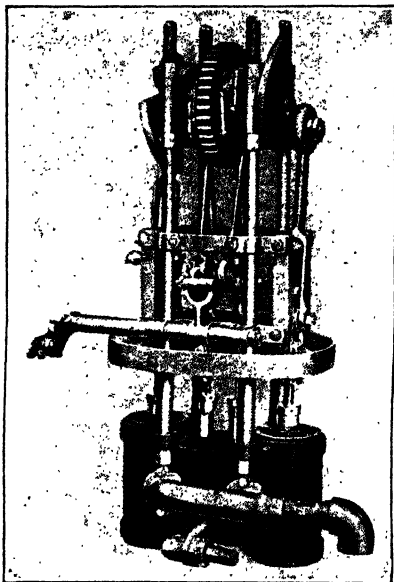
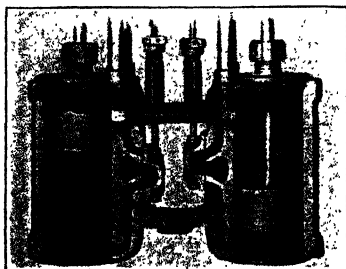

Fig. 26. Stanley Two-Cylinder Steam Engine, Showing Link Motion and Balanced Shaft
Fig. 27. Cylinder Construction of Stanley Steam Engine, Showing Steam Chest in Center
**Stanley.** An example of the two-cylinder type is the Stanley engine, which, in the present models, is made in three sizes of the following bore and stroke:  $3\frac{1}{4}$  by  $4\frac{1}{4}$ , 4 by 5, and  $4\frac{1}{2}$  by  $6\frac{1}{2}$  inches. This engine is geared directly to the rear axle by a spur gear mounted on the crankshaft, as shown in Fig. 26, and the frame rods are attached radially from the axle housing. The cylinder end is attached to the frame of the car. The rear-axle gear ratio in the small light runabout model is 30 to 56, and in the heavy delivery car is 40 to 80. With a gear ratio of 40 to 60 in one of the touring cars the engine turns over at 447 r.p.m. when the car is running 30 miles per hour.
Both cylinders take high-pressure steam at both ends, the engine being of the double-acting, simple type. The steam chest, Fig. 27, lies between the two cylinders, with the D-slide valves driven by the eccentrics lying next to the drive-shaft gear. In Fig. 26 is shown the Stephenson link by which the cut-off is hooked up and the reversing of the engine accomplished. This valve gear has been described in detail on page 23. The cross shaft, working the link, and the hook, for holding it in the normal position, are shown just to the left of *A*.
Roller and ball bearings are used extensively in the Stanley motor. The crosshead bears on a plain crosshead guide, and the connecting-rod and eccentric-strap bearings are of the ball type. The counterweights are also shown in Fig. 26.